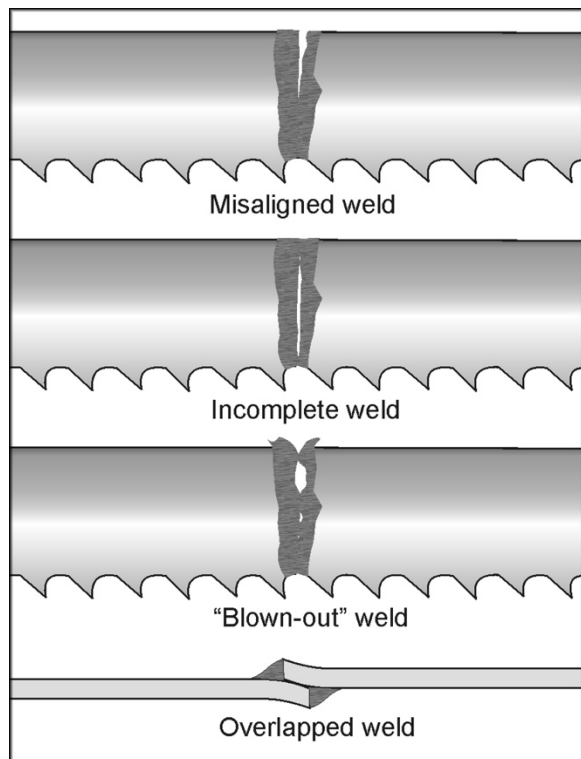

Figure 18
3. Insert one end of the blade in the left clamp (Figure 18). Position the back edge of the blade against the back edge of the left clamp. Then position the end of the blade midway between the left and right clamps. Tighten the left clamp.
6. Press and hold the weld button (Figure 18). When the weld button is pushed, the left clamp moves to the right to apply pressure to the blade ends. At the same time, sparks will come from the ends of the blade as they are welded. Do not release the weld button until the blade joint is "red hot."
3. Quickly press and release (jog) the anneal button (Figure 18). Repeat the press-and-release process until you see a slightly red glow from the weld area.